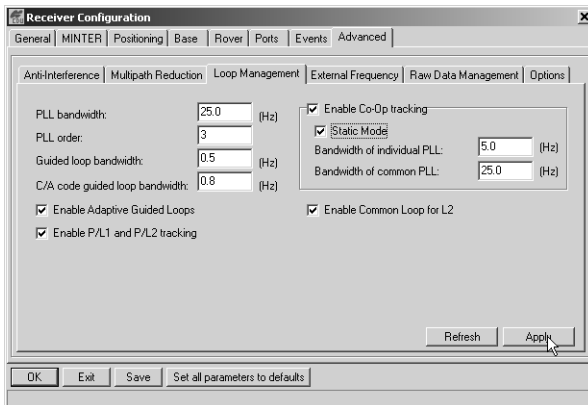

Figure 3-4. Advanced->Loop Management
4. Click the **Loop Management** tab and set the following parameters, then click **Apply** (Figure 3-4):